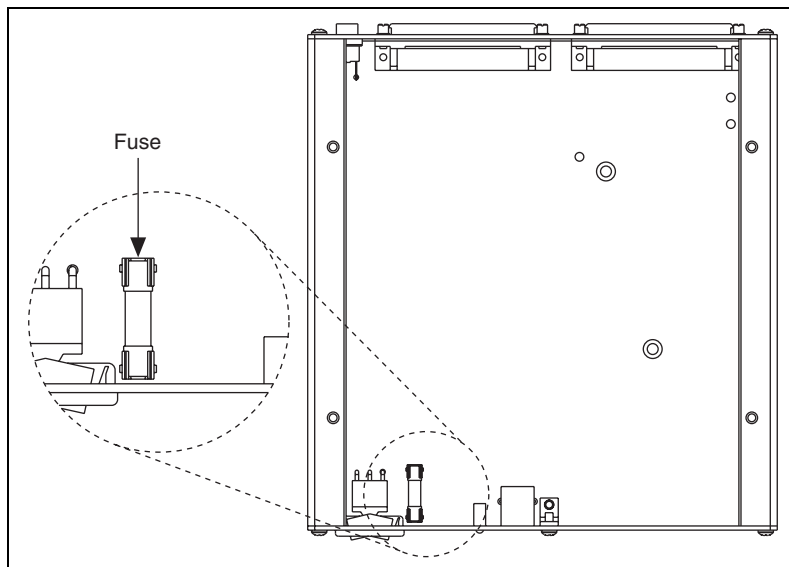

Figure 3-4. USB-62xx Mass Termination Fuse Location
3. Replace the fuse while referring to Figure 3-4 for the fuse location.